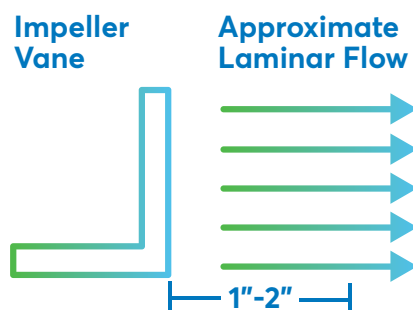
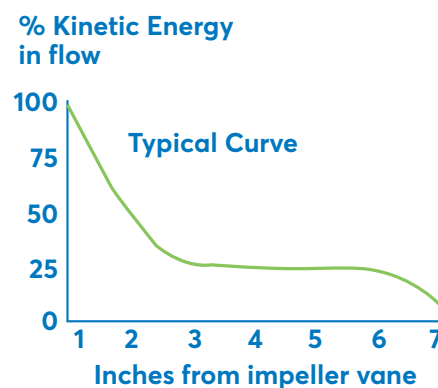

FIGURE 2: Causes laminar flow for "total motion"
FIGURE 3: Concentrates energy close to impeller
2. The high velocity creates a turbulent zone of intense flow. See Figure 2. Rapid hydraulic attrition is accomplished in this zone, utilizing shear and impact energy. This turbulent zone is normally within 1-2" of the blade diameter, and 75% of the kinetic energy is applied within this zone. The vortex should end where the shaft meets the blade. See Figure 3.